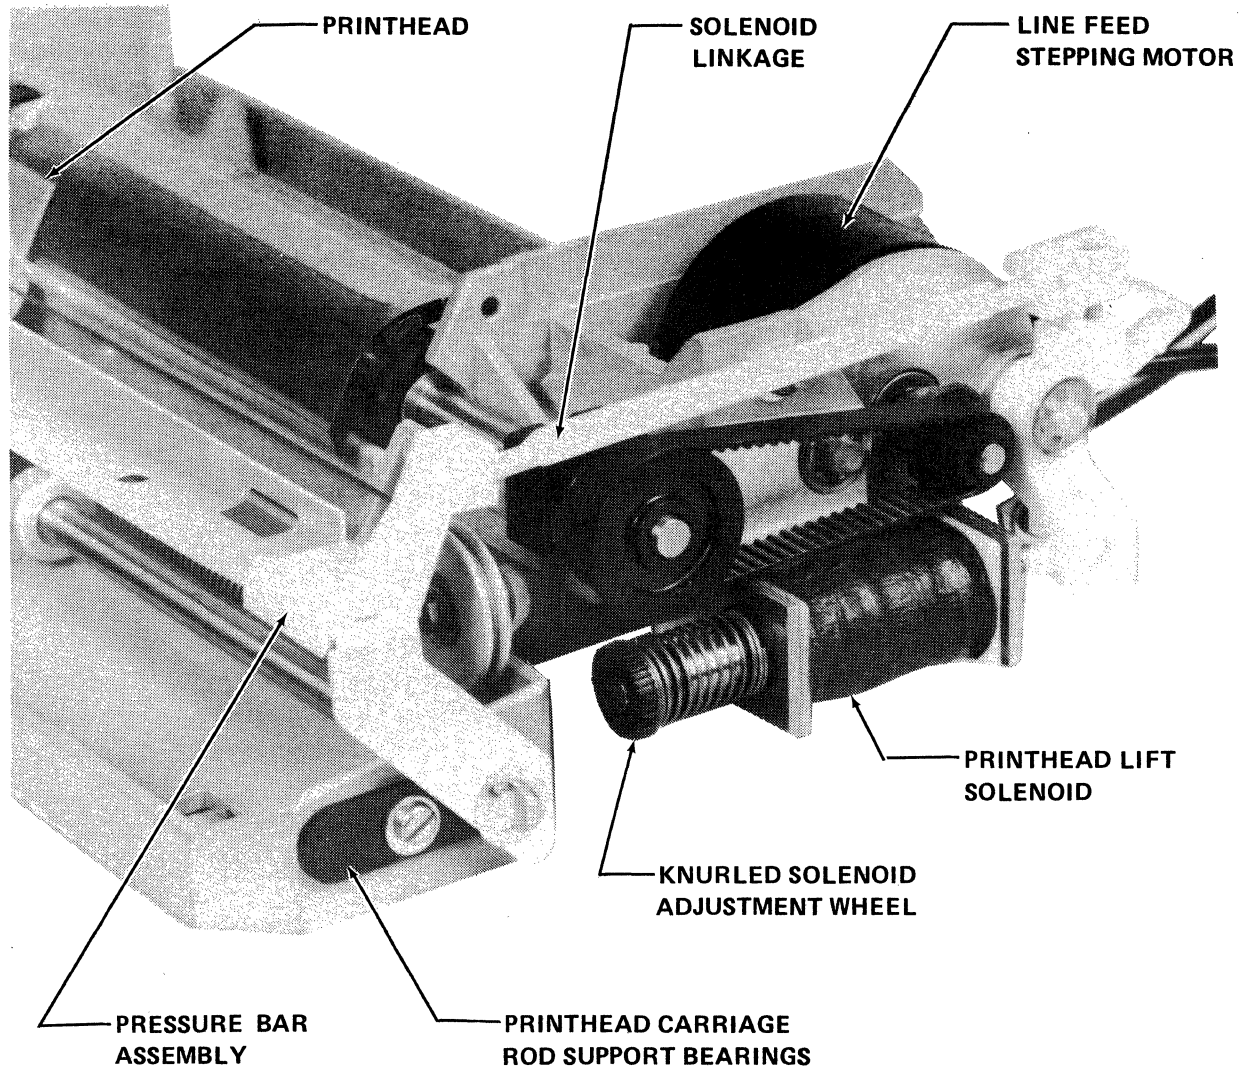

Figure 5-6. Printer Mechanism Component Locations
4. Release the pressure bar assembly (fig. 5-6) by disconnecting the plastic solenoid linkage at the point where it attaches to the pressure bar assembly.
3. Press the printhead lift solenoid (fig. 5-6) so that the solenoid is in the fully energized position.
5. Adjust the solenoid travel to at least 0.05 cm (0.02 inches) but no greater than 0.11 cm (0.045 inches) by rotating the knurled solenoid adjustment wheel (fig. 5-6). Rotate the wheel clockwise to increase the travel, counterclockwise to decrease the travel.
5.5.2 PRINTHEAD POSITION ALIGNMENT. After installing a new printhead, check a printed line of zeros. If the tops or the bottom of the zeroes are missing anywhere along the printed line, correct by repositioning the printhead carriage rod support bearings (fig. 5-6) as follows: